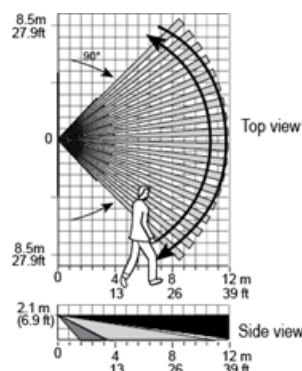

Figure 12 – Coverage Pattern Walk Test
4. Walk-test the coverage area – see Figure 12. Walk across the far end of the coverage pattern in both directions. The red LED lights each time your motion is detected followed by 3 LED blinks.